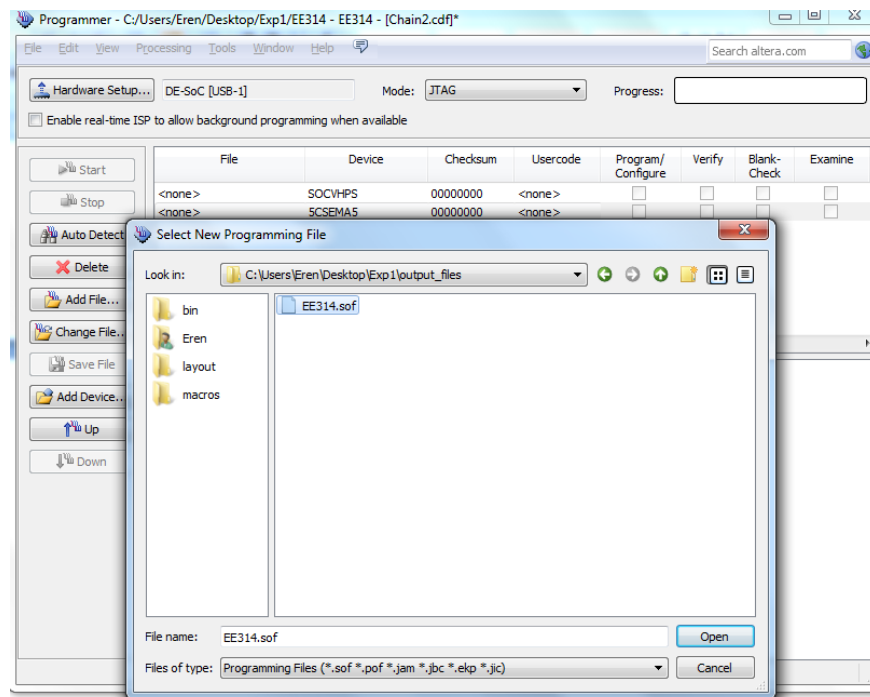

Fig. 17: Finding the programming file
- 5) Double Click the **column** under the **file** on **5CSEMA5** row and click on **output_files** directory and then click on **EE314.sof** file. This file is your programming file as shown in Fig. 17.